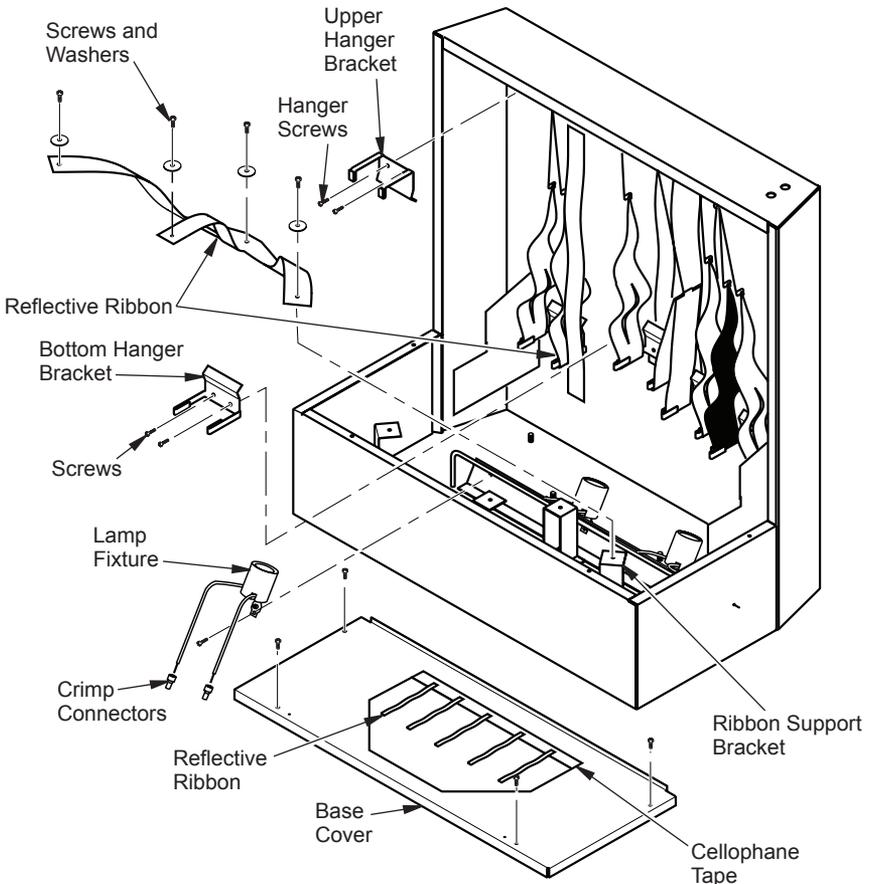

Figure 37 - Replacing Fixtures (Shown without Firebox for Clarity)
4. Remove 2 Phillips screws at base of defective fixture (see Figure 37, page 21).
2. Locate defective ribbon; there are 3 strips mounted on rear cabinet and 3 mounted in base (see Figure 37).
3. If upper back cabinet ribbons need replacing, remove 4 Phillips screws holding corresponding bottom and top hanger brackets (see Figure 37, page 21).
5. Cut an 18" strip of reflective ribbon and position top end about an inch above top bracket position (see Figure 37, page 21).
9. Cut a 9" long strip of ribbon and apply across each ribbon support bracket with shiny side facing up (see Figure 37, page 21).
11. If replacing top reflective ribbons on base cover, cut a 3" section of ribbon and split down the middle. With shiny side up, attach with cellophane tape into rear edge of base cover opening (see Figure 37, page 21).